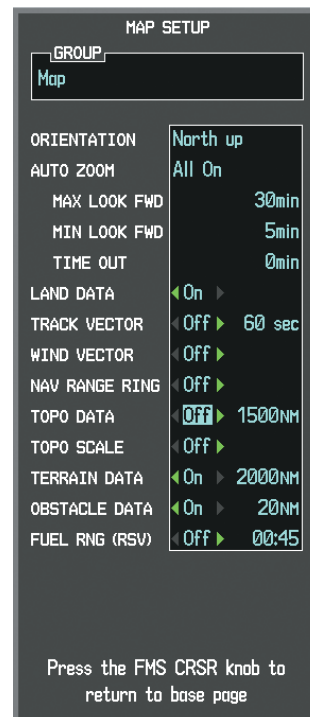

Figure 6-140 Navigation Map Page Setup Menu, Map Group
- 5) Turn the large **FMS** Knob or press the **ENT** Key to scroll through product selections (Figure 6-140).